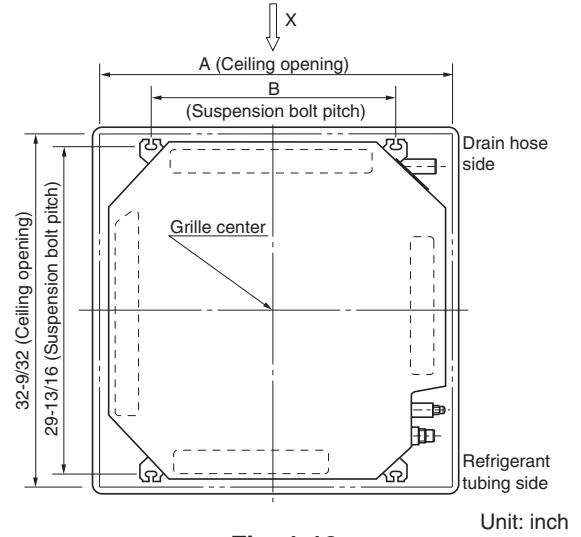

Fig. 1-13
- (2) Follow Fig. 1-13 and Table 1-4 to make the holes in the ceiling.